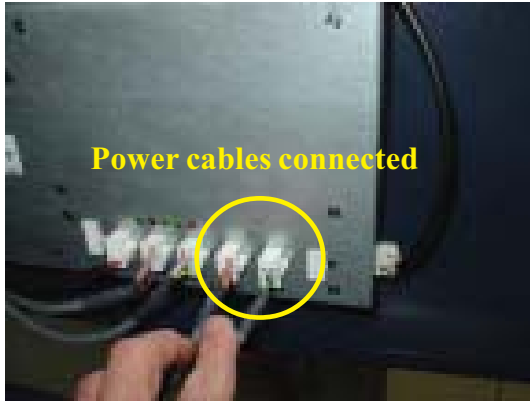

Figure 11. Connect power cables.
11. The blue tension lever is located on the right side of the assembly. It must be in the closed position (Figure 11 and insert). If not, move the lever (moves in 3 positions) to the closed position. Close the printer assembly and retry to feed the printer paper. If successful, continue with step 12.
- Connect the 2 power cables to any unused 8 pin connectors on the power supply (Figure 11).